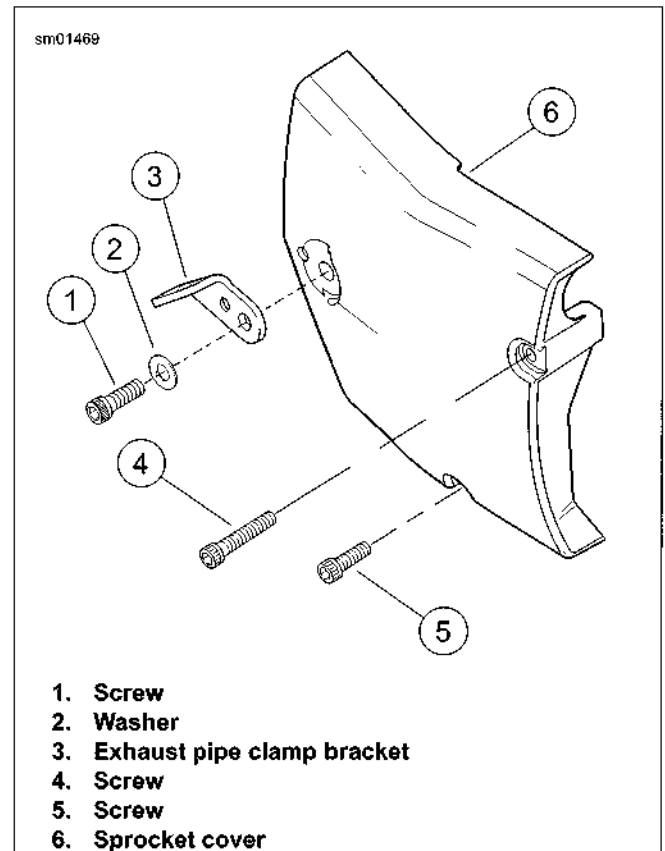

Figure 5-76. Sprocket Cover
6. See Figure 5-76. Remove screw (1), washer (2) and exhaust pipe clamp bracket (3).
7. Remove two screws (4, 5). Remove sprocket cover (6).
11. See Figure 5-76. Install sprocket cover (1). Thread long screw (3) in top hole and short screw (2) in bottom hole, finger-tight.
12. Install exhaust pipe clamp bracket (4), washer (5) and screw (6). Tighten to 30-33 ft-lbs (40.7-44.8 Nm). Now tighten screws (2, 3) to 80-120 **in-lbs** (9.0-13.6 Nm).